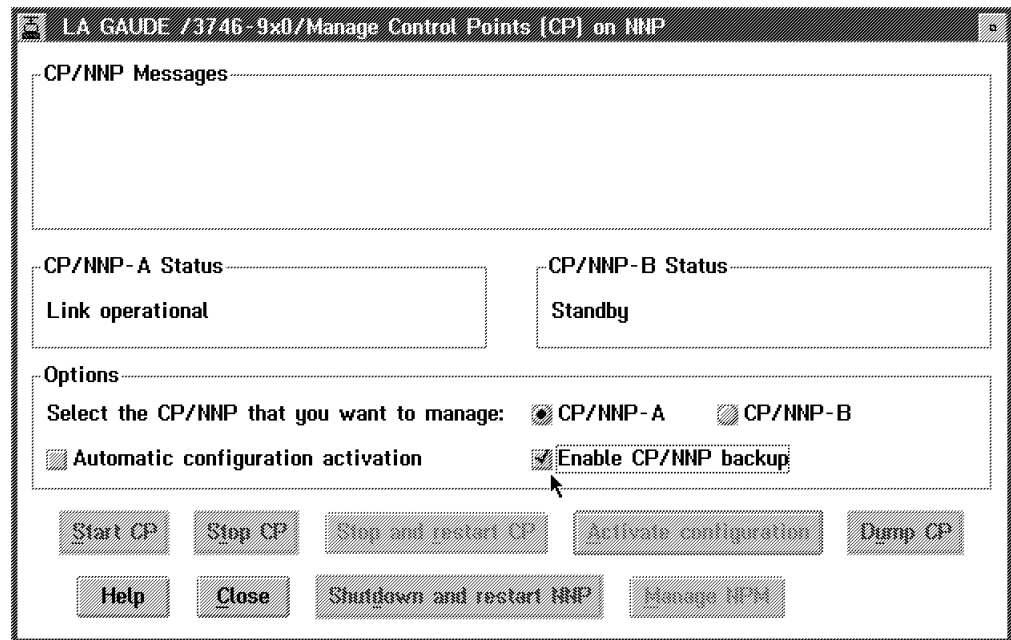

Figure 11-1. Manage the Control Points
- b. **Set or reset the automatic configuration activation**, refer to Figure 11-1 on page 11-5.
- c. **Enable the CP/NNP backup** if the nnp-b is installed, refer to Figure 11-1 on page 11-5.